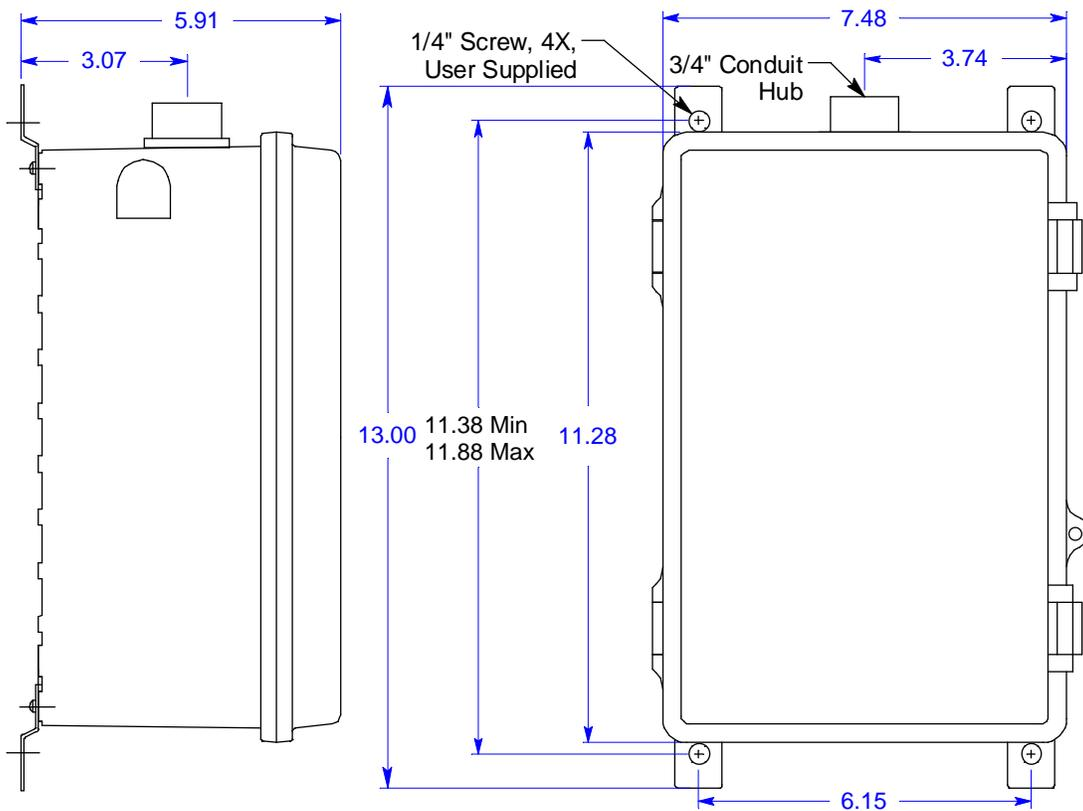

Figure 3: Outline & Mounting Dimensions
4. The standby battery is shipped with the mounting feet positioned behind the housing. Loosen the screws that secure the feet to the housing, rotate the feet to their mounting position as shown in Figure 3, then tighten the screws.